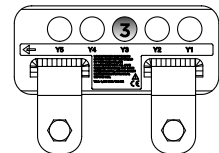

Fig. 5. Rigging point X3.
5. Use a graded 5/8" anchor shackle in position X3 of the multipoint adaptor to suspend the array; see Fig. 5.